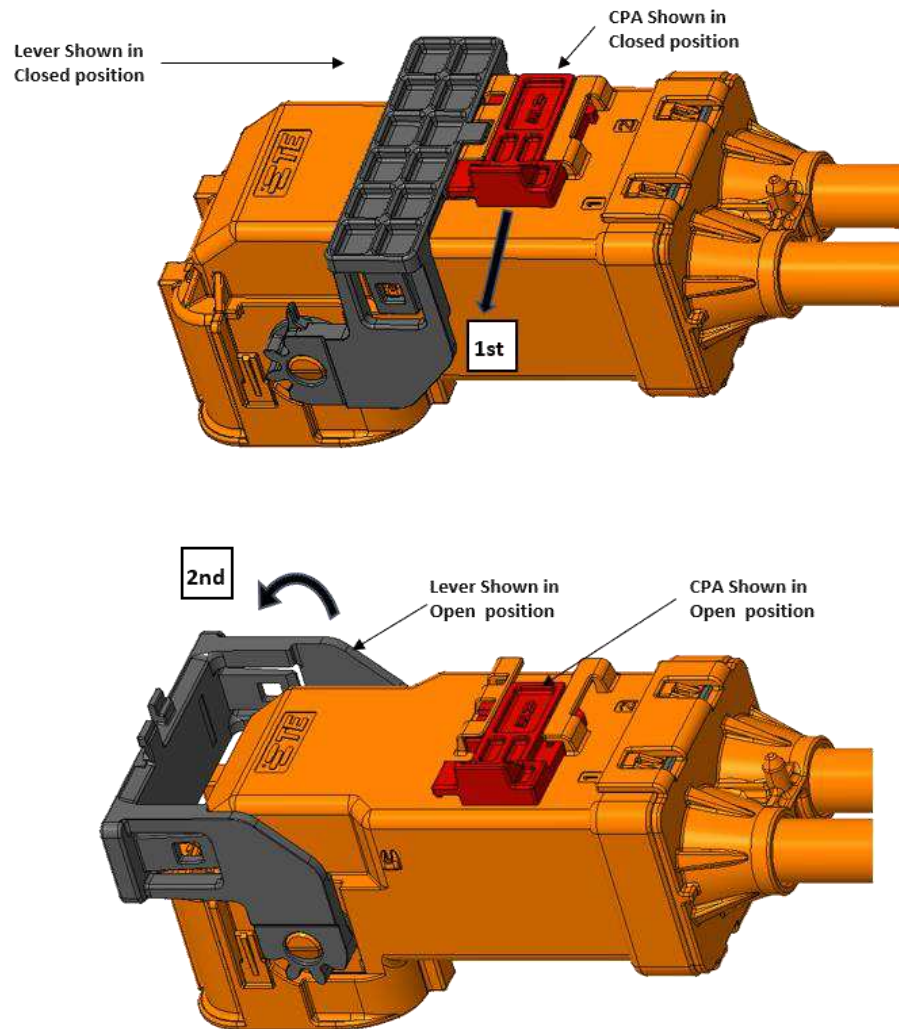

Figure 12: Assembly Lever and CPA Closed
1. If the assembly is shipped with the Lever and/or red Connector Position Assurance (CPA) in the closed position, first if necessary, actuate the CPA to the open position, then open the lever to the open position as shown in Figure 12.